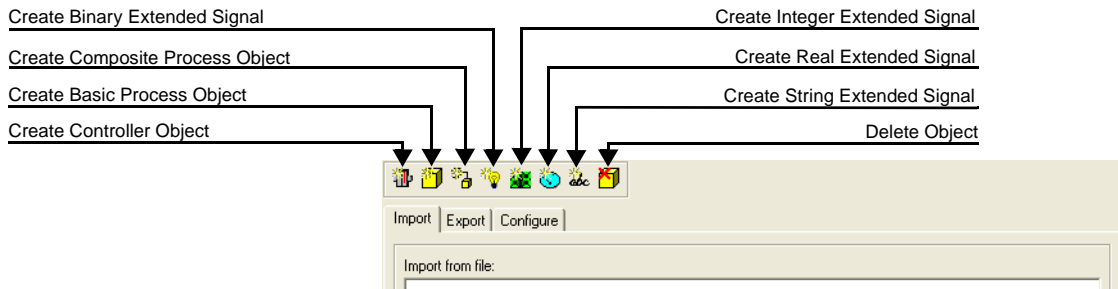

Figure 16. Generic Control Network Configuration Aspect
3. Select the Generic Control Network Configuration aspect, see also Figure 16. You use this aspect when you want to create new controller objects, process objects or signals.
12. Return to the Generic Control Network Object and its Control Network Configuration aspect, see also Figure 16 on page 25.